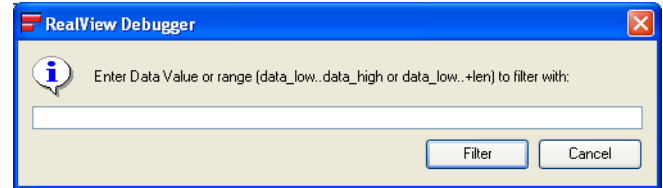

Figure 9-15 Filtering on a data value match
1. Select **Filter on Data Values...** from the **Filter** menu to display the Prompt dialog box. Figure 9-15 shows an example: